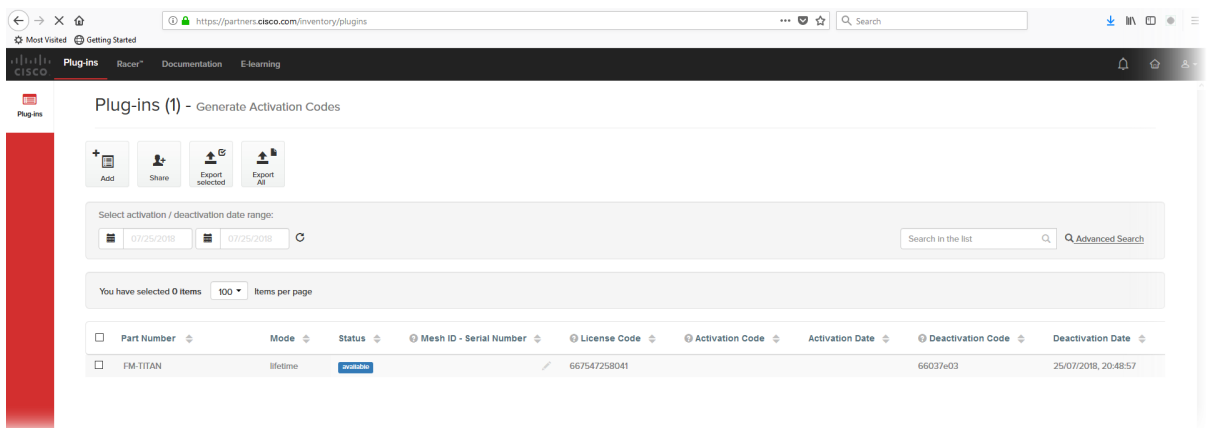

Figure 61. Partner Portal (Plug-ins web page)
- The Plug-ins web page will be shown (Figure 61 \(page 115\)).